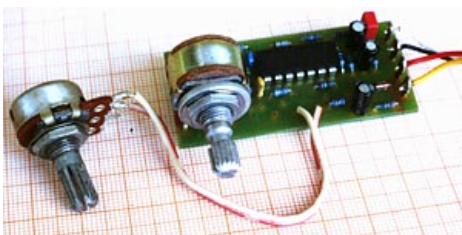

Fig.10. Active electronic circuit that acts as a second-order low-pass- filter and imitates the sound characteristics of many different guitar and bass pickups
4. Install an active electronic circuit that acts as a second-order low-pass filter. This will give you the possibility to adjust the resonant frequency and the resonance height continuously with potentiometers, instead of only in discrete steps. So you can imitate the sound characteristics of many different guitar and bass pickups. These circuits are called „State Variable Filter“. The first instrument manufacturer to apply this was Alembic since the seventies, later it was copied by others. Completely mounted circuit boards of this kind, fitting into most common instruments, are available from the author (Fig. 10). They need a 9 V battery for supply, and on some instruments some space inside the body that must be routed.